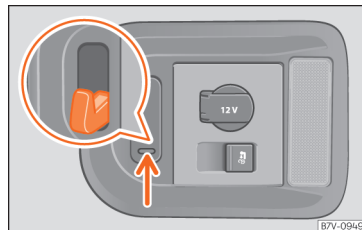

Fig. 150 In the luggage compartment: bag hooks.
On the right hand side of the luggage compartment there are some fold-out hooks for hanging bags »» Fig. 150.
- Press the retaining hooks down »» Fig. 150 (arrow) and fold them.